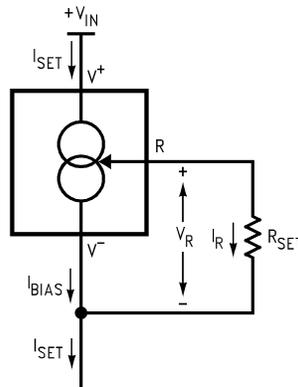

Figure 13. Basic Current Source
- (1) Unless otherwise specified, tests are performed at $T_j = 25^\circ C$ with pulse testing so that junction temperature does not change during test
- (2) Set current is the current flowing into the V^+ pin. For the Basic 2-Terminal Current Source circuit shown in Figure 13. I_{SET} is determined by the following formula: $I_{SET} = 67.7 \text{ mV}/R_{SET}$ (@ $25^\circ C$). Set current error is expressed as a percent deviation from this amount. I_{SET} increases at $0.336\%/^\circ C$ @ $T_j = 25^\circ C$ ($227 \mu V/^\circ C$).
- (3) I_{SET} is directly proportional to absolute temperature ($^\circ K$). I_{SET} at any temperature can be calculated from: $I_{SET} = I_o (T/T_o)$ where I_o is I_{SET} measured at T_o ($^\circ K$).
The total current through the LM134 (I_{SET}) is the sum of the current going through the SET resistor (I_R) and the LM134's bias current (I_{BIAS}), as shown in Figure 13.